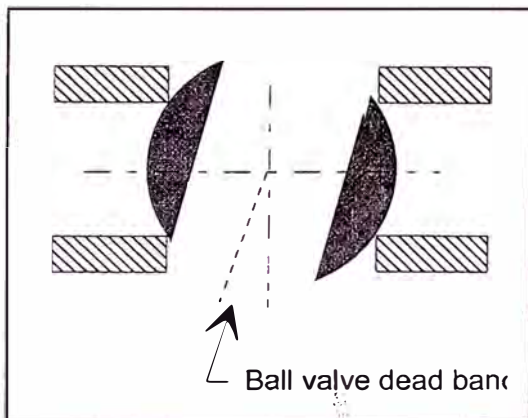

Figure 2 Dead band
4. Install the inner bearing carefully. Do not cock the bearing. See Figure 2 on the next page.
The areas on the cam between the dots are non-rising with respect to the lever arm wheel. The purpose of this area is to provide a feedback "dead band" for the first few degrees of motion of a ball valve (see Figure 2 above). The dead band is not used on standard Centac compressors.